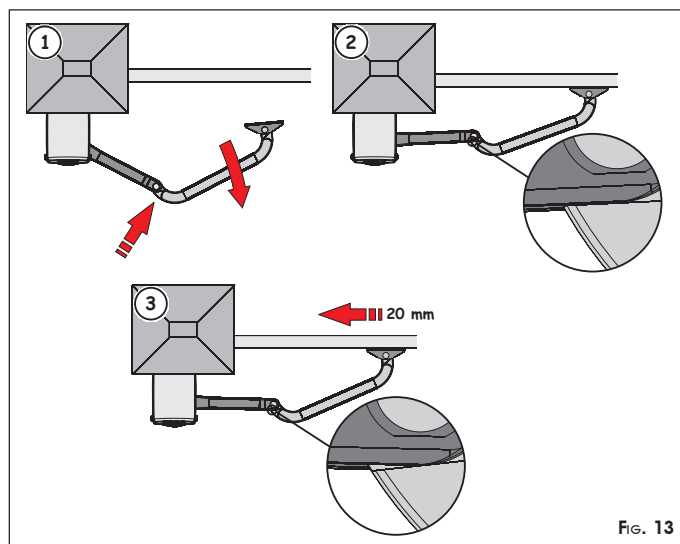

FIG. 13
- ⑧ Align the arms you have just assembled, pushing in the central zone until they stop, see Fig. 13 ref. ①.
- ⑨ Rest the front bracket on the leaf, Fig.13 ref. ②.
- ⑩ Move back the front bracket by about 20 mm and mark the securing holes, Fig. 13 ref. ③.
- ⑪ Secure the bracket in the established position using two M8 screws.
- ⑫ Move the bracket by hand and - with the leaf in closing position - make sure that the two arms do not impact each other, as shown in Fig. 13 ref. ②.
- ⑬ Take the operator back to the work position - see paragraph 7.